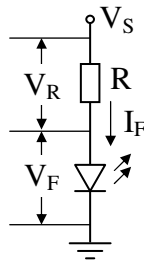

Fig. 5.3 Calculation of current-limiting resistor
Never connect an LED directly to a battery or power supply! It will be destroyed almost instantly because too much current will pass through and burn it out. The LED must be protected with a series current-limiting resistor (R) as shown in Fig. 5.3. The value of this resistor is easily calculated using Ohm's law. The V_F of the LED is fairly constant; therefore, the voltage across R is the difference between the applied voltage (V_S) and V_F : $V_R = V_S - V_F$. A safe forward current (I_F) is chosen for the LED that produces sufficient light. This current, which also flows through R , is divided into V_R to find the value of R : $R = V_R/I_F$.
By using LED specifications sheet values an LED circuit can be designed for any source voltage. In Fig. 7.3, the LED is to be used in a circuit with a source of 5 V. By using the specifications From Fig. 5.3, we see that the resistor must drop 3.3 V if the LED is to drop 1.7 V. If the current is to be 20 mA, as indicated is typical in the specification sheet, the value of R must be